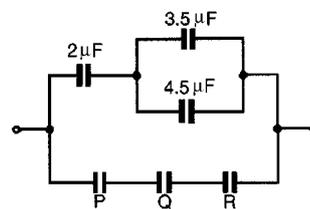

Figure 6.12
- In Fig. 6.12 capacitors P , Q and R are identical and the total equivalent capacitance of the circuit is $3\ \mu\text{F}$. Determine the values of P , Q and R [4.2 μF each]